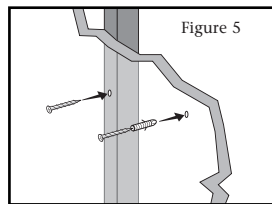

Figure 5
- It is best if at least one screw hits a wall stud. If there is no stud behind the pilot-hole location, install wall anchors (not included) to secure the bracket screws. [Figure 5] Follow the wall anchor manufacturer's directions. Each wall anchor should be rated to hold at least one half of the product net weight [see specifications on page 1].